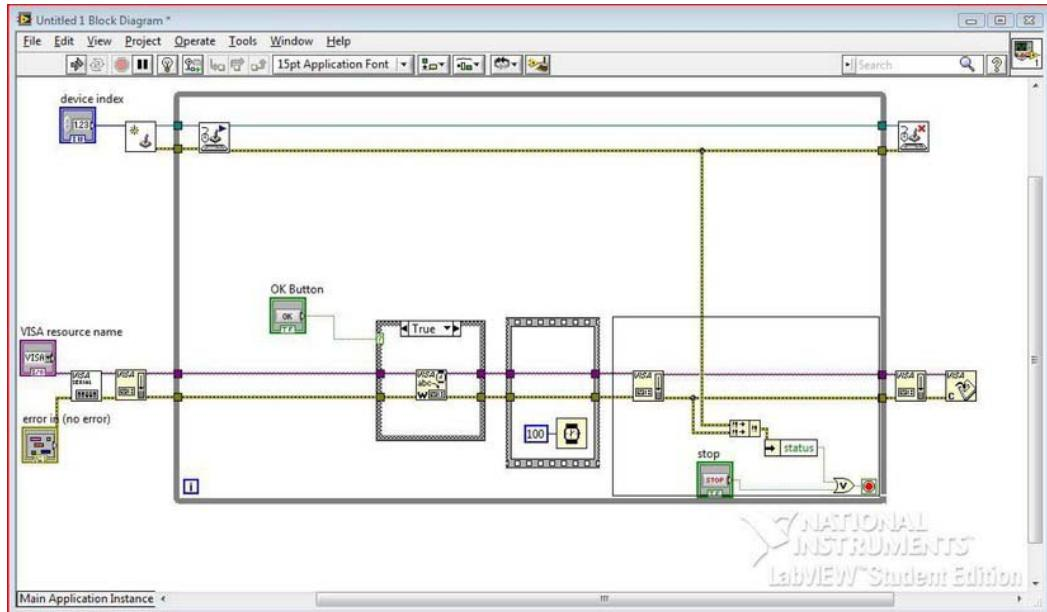

Figure 10-28. Complete the While Loop by adding in stop conditions.
4. Then, attach the error out terminal from the VISA Flush I/O Buffer Function (the one inside the While Loop) to the second terminal on the Merge Errors Function. Figure 10-28 shows the completed While Loop condition.